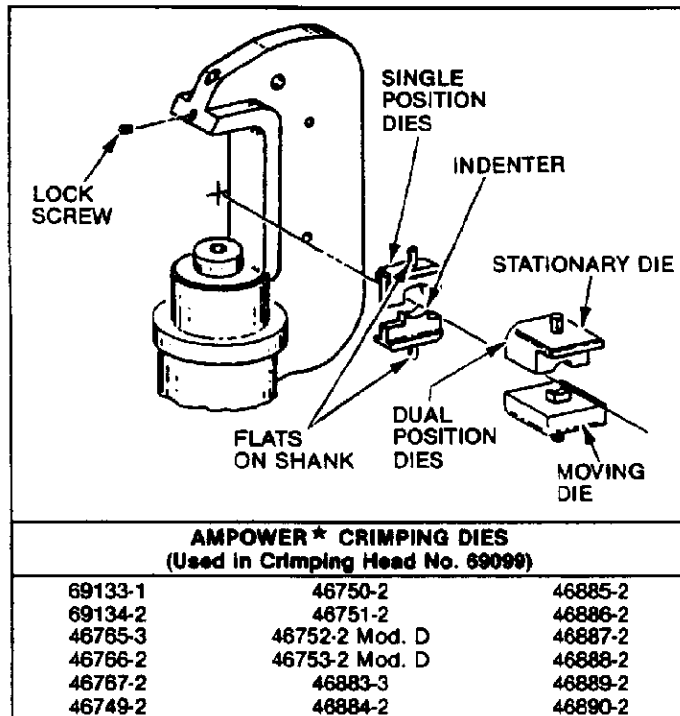
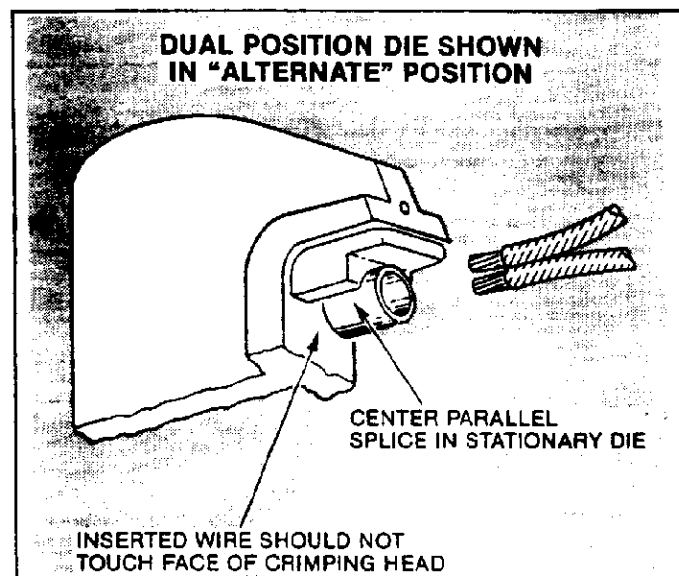

Fig. I-1
Fig. I-4
This instruction sheet (IS) covers application and maintenance procedures for the AMPOWER crimping dies listed in Figure I-1.
The AMPOWER die assemblies listed in Figure I-1 are used to crimp AMPOWER terminals and splices of the wire sizes indicated in Figure I-2.
‡ NON-REVERSIBLE DIES. ALWAYS INSTALL INDENTER IN RAM. SEE FIGURE I-1.
2. Loosen lock screw in top of crimping head. See Figure I-1.
NOTE Ensure that dies are inserted FULLY and that flats on shanks are facing lock screws. See Figure I-1.
NOTE Typical single and dual position die sets are shown in normal crimping position in Figure I-1. The dual position dies are used in alternate position only for parallel splice applications as shown in Figure I-4.
NOTE When "alternate" position of dual position dies is being used to crimp parallel splices, ensure that the end of the inserted wire does not touch or bind against face of crimping head. See Figure I-4.